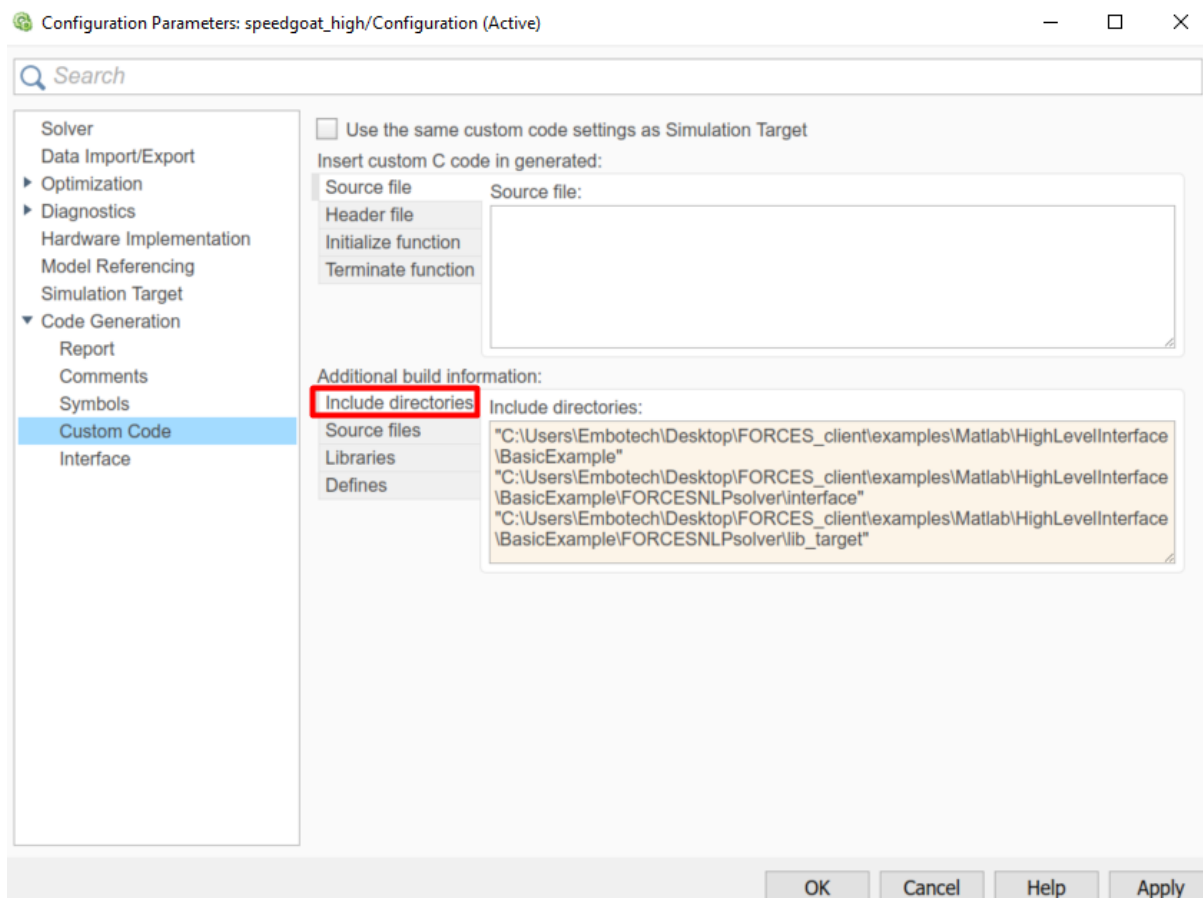

Figure 13.69: Add the directories included for the code generation.
10. (Figure 13.69) In the “Code Generation/Custom Code” tab, include the directories: